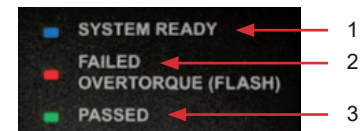

Figure 2
The led indicator LEDS tell the operator when the tool is ready (1), when the torqueing has failed (2) or torqueing has passed (3) as shown in Figure 2